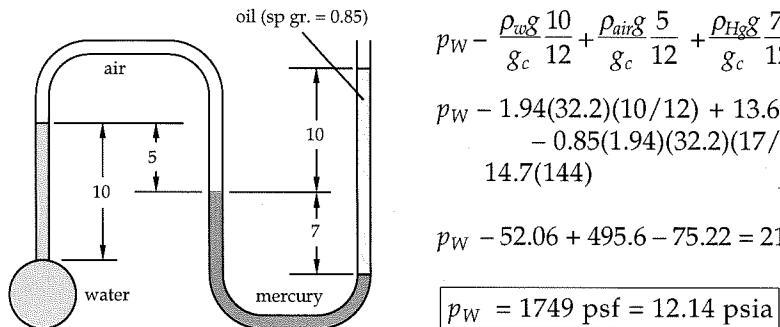

FIGURE P2.21.
21. Referring to Figure P2.21, determine the pressure of the water at the point where the manometer attaches to the vessel. All dimensions are in inches and the problem is to be worked using Engineering or British Gravitational units.